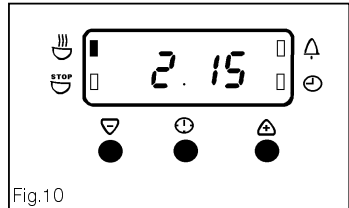

Fig.10
- iii) To set the length of cooking time, press the Selector Control button until the 'Cook Time' (👉) indicator neon is illuminated. Press the increase control ( + ) until the required length of cooking time is displayed, e.g. 2 hrs 15 mins as Fig. 10. Depress the decrease control ( - ) if necessary.